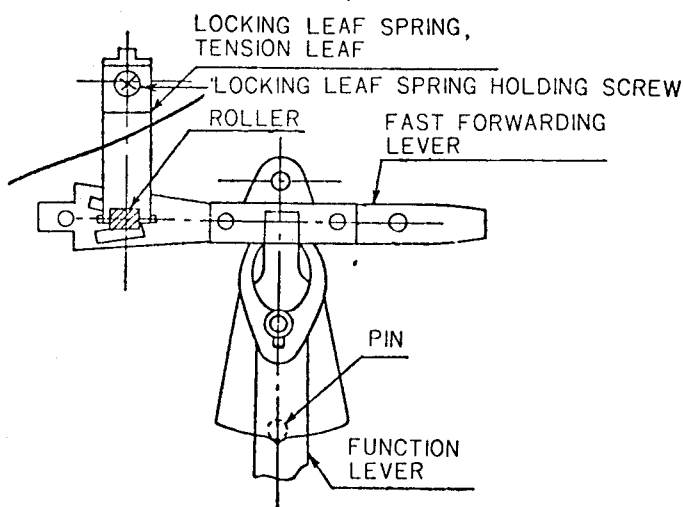

Fig. 22
3. Mounting of Locking Leaf Spring (Fig. 22)